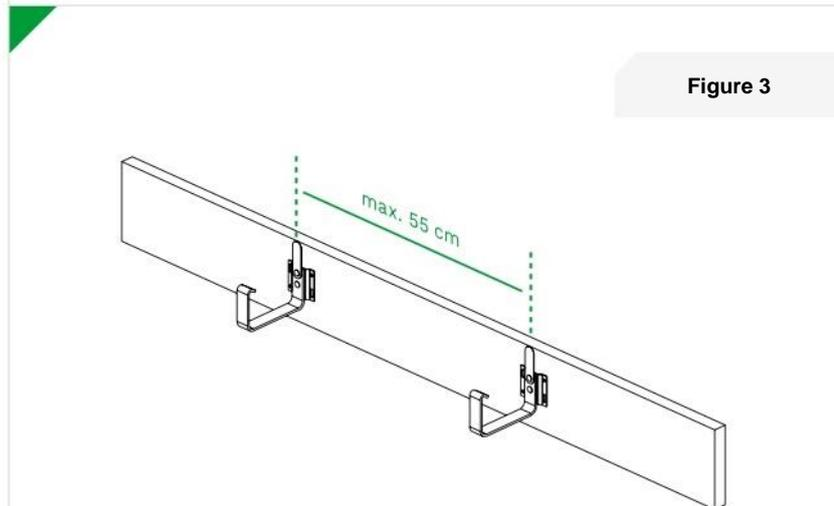

Figure 3
- 2.2 The bracket spacing recommended by the manufacturer is max 55 cm. (**Fig. 3**).